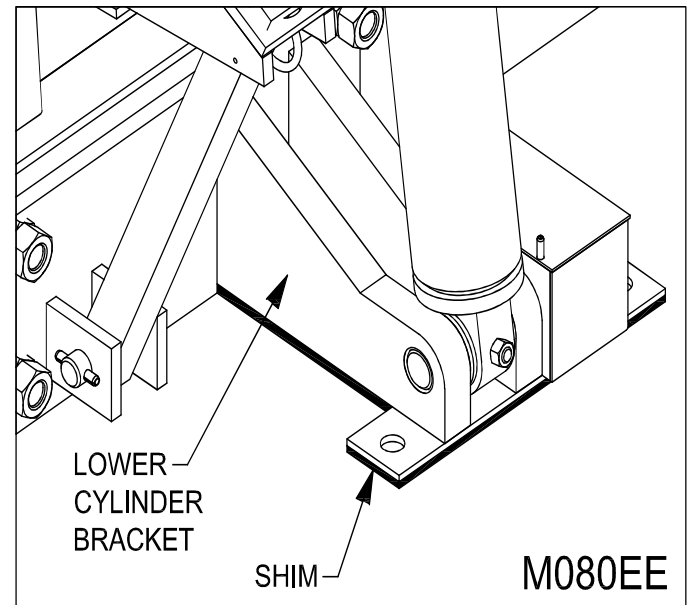

Figure 20: Shim the Bottom Cylinder Bracket
23. ___ Shim between the bottom cylinder bracket and the pit floor and weld securely in place. Lag the lower cylinder bracket to the floor using 5/8 x 4 1/2 concrete anchors with a minimum tension value of 3,900 lbs (1,769 kg). Torque to manufacturers specifications. Ensure all shims are welded together as well as to the leveler curb channel and cylinder bracket (See “Figure 20: Shim the Bottom Cylinder Bracket” on page 25).
13. ___ Shim the Bottom Cylinder Bracket (see “Figure 20: Shim the Bottom Cylinder Bracket” on page 25)